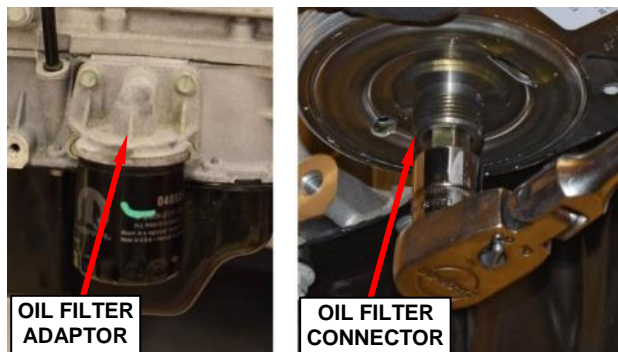

Figure 59 – Engine Without Oil Cooler
- b. Remove and save the engine oil filter connector (Figure 59).